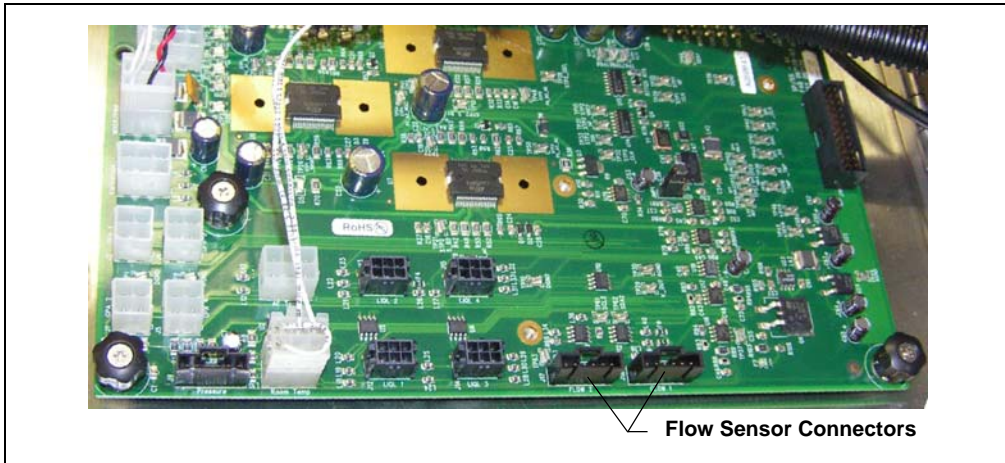

Figure 3-40. SP Electronics Board: Flow Sensor Connectors
5. Plug the cable into the connector labeled **FLOW 1** (or **FLOW 2**, if this is the second sensor) in the bottom center of the SP electronics board (see Figure 3-40).
5. Plug the cable into the connector labeled **Pressure** in the bottom left of the SP electronics board (see Figure 3-40).
3. Plug the DC voltage control cable (P/N 070181) into the connector labeled **VarVoltage** on the left side of the SP electronics board (see Figure 3-40).
3. Plug the PWM power output cable (P/N 070180) into the connector labeled **Mixer/PWM** on the left side of the SP electronics board (see Figure 3-40).